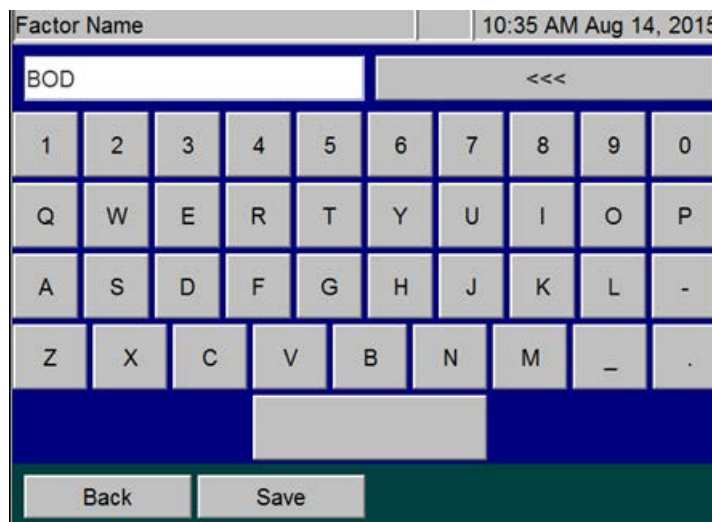

Figure 73: Configuring the Factor Name
8. Press the **Factor Name** button and use the alpha/numeric keypad to type a name for the conversion factor (Figure 73).